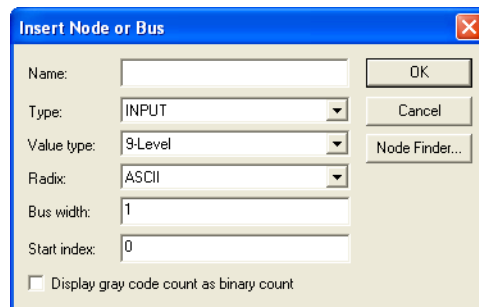
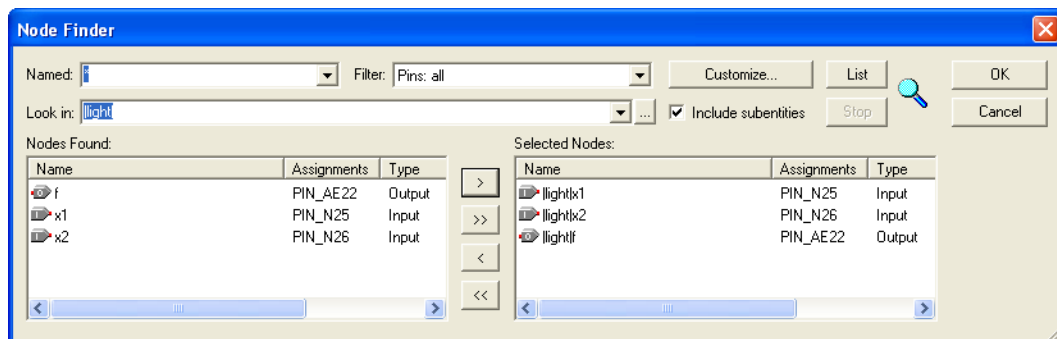
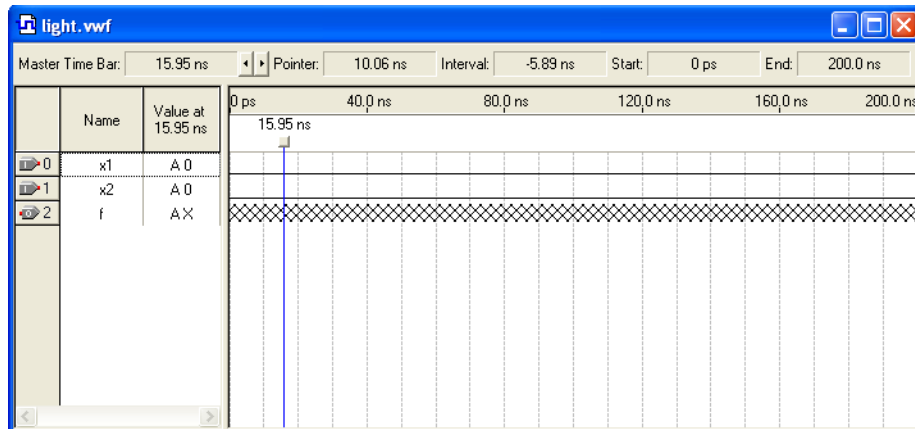

Figure 32. The Insert Node or Bus dialogue.
Figure 33. Selecting nodes to insert into the Waveform Editor.
Figure 34. The nodes needed for simulation.
- Next, we want to include the input and output nodes of the circuit to be simulated. Click **Edit > Insert > Insert Node or Bus** to open the window in Figure 32. It is possible to type the name of a signal (pin) into the Name box, but it is easier to click on the button labeled **Node Finder** to open the window in Figure 33. The Node Finder utility has a filter used to indicate what type of nodes are to be found. Since we are interested in input and output pins, set the filter to **Pins: all**. Click the **List** button to find the input and output nodes as indicated on the left side of the figure.
Click on the $x1$ signal in the Nodes Found box in Figure 33, and then click the > sign to add it to the Selected Nodes box on the right side of the figure. Do the same for $x2$ and f . Click OK to close the Node Finder window, and then click OK in the window of Figure 32. This leaves a fully displayed Waveform Editor window, as shown in Figure 34. If you did not select the nodes in the same order as displayed in Figure 34, it is possible to rearrange them. To move a waveform up or down in the Waveform Editor window, click on the node name (in the Name column) and release the mouse button. The waveform is now highlighted to show the selection. Click again on the waveform and drag it up or down in the Waveform Editor.